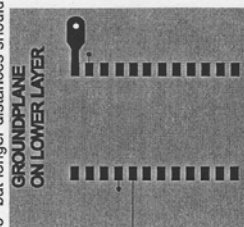

Figure 14: Example of Proper Groundplane (shaded area)
- Figure 14: Example of Proper Groundplane (shaded area)*